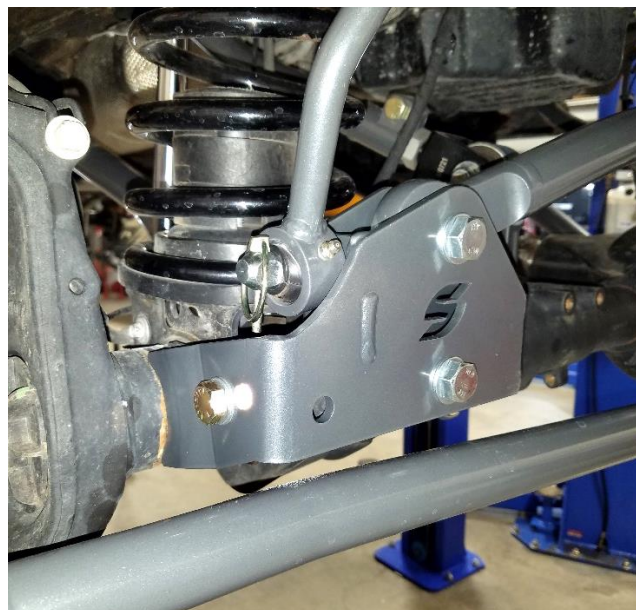

Figure 13. Sway Bar Link Installed on Bracket
18. Install the passenger side sway bar end link into the upper hole in the side of the Synergy Front Track Bar Relocation Bracket. If using the Synergy Sway Bar Disconnect Pin, torque the pin nut to 80lb-ft. See **Figure 13.**